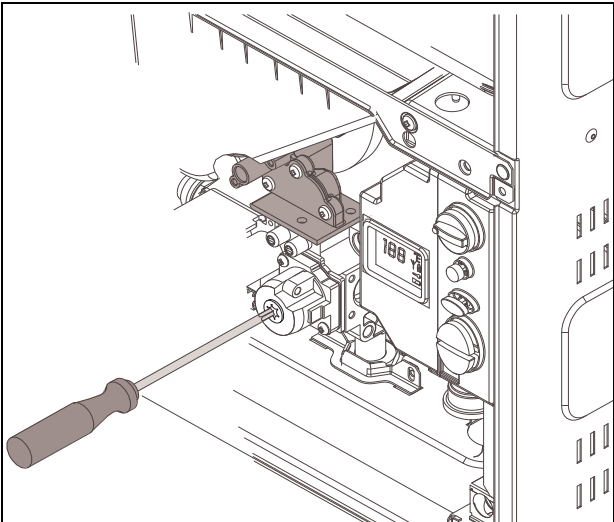

Fig. 8
- ▶ Remove yellow painted #40 Torx cover from the front of the gas valve. (Fig. 8) A plastic #40 Torx screw will be revealed.